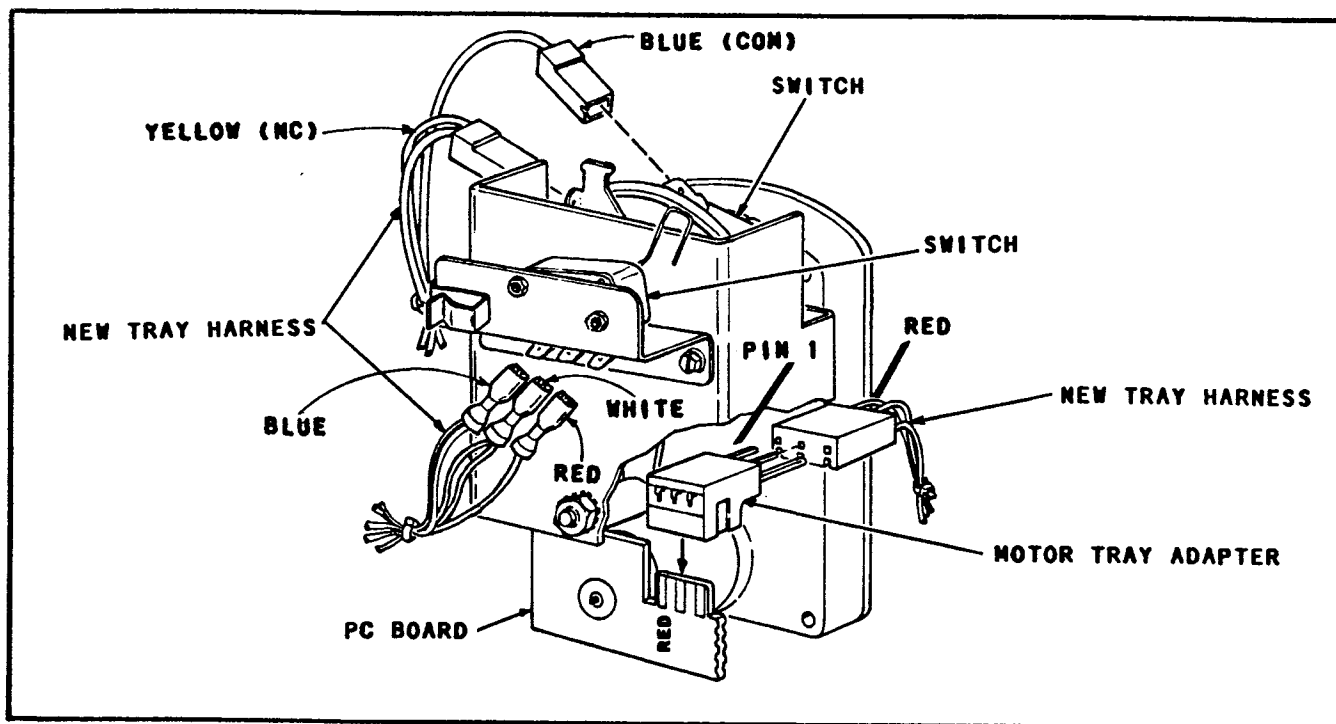

FIGURE 3
1. Install a Motor Tray Adapter on the end of each harness connector that leads to one of the Motor Assembly PC Boards (See Figure 3).
2. Connect the new harness to both Switches and the PC Board of each Motor Assembly (See Figure 3).